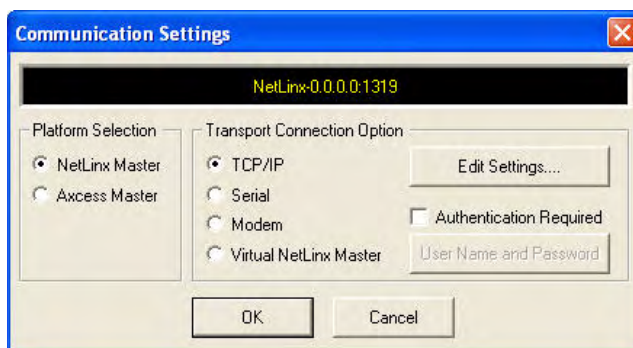

FIG. 22 Communications Settings dialog box
4. Click the **Communications Settings** button to open the Communications Settings dialog (FIG. 22).